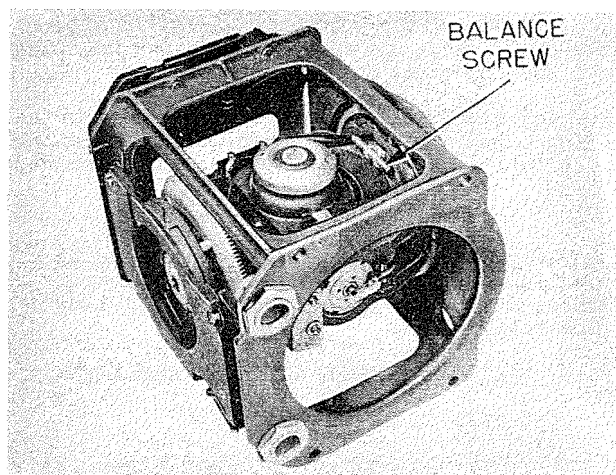

Figure 47C
2. With the chassis resting on its side, set the vertical gimbal and gyro assembly horizontal, as shown in figure 47C, and note the direction in which it departs from the horizontal setting.
3. Shift the gyro in the vertical gimbal ring until the vertical gimbal and gyro will remain horizontal as shown in figure 47C. This may be done by screwing out the bearing cap on the light side, and screwing in the bearing cap on the heavy side an equal amount so as not to disturb the end-play in the gyro axis.
4. Make finer adjustments for horizontal balance by shifting the balance screw. (See figure 47C.)